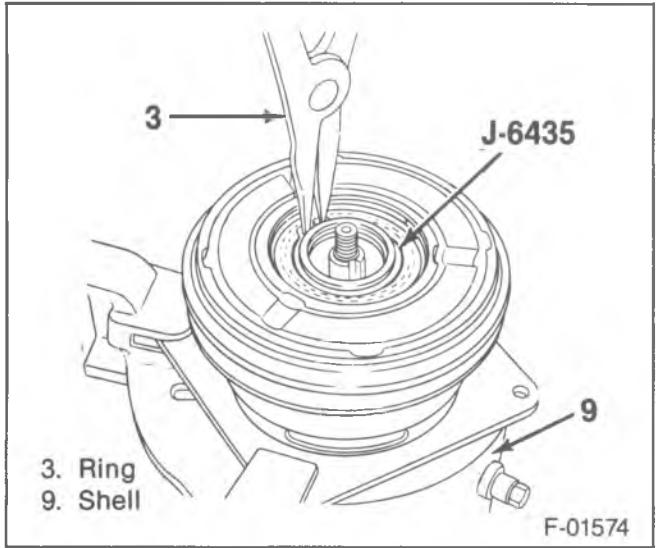

Figure 6—Removing the Pulley Retainer Ring
1. Clutch plate and hub assembly (2).
2. Pulley bearing retainer (2) with J-6435 (figure 6).
3. Pulley (6).